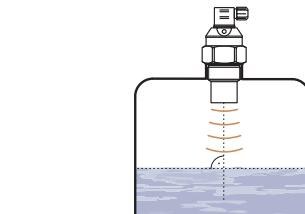

Fig. 1: Recommended installation in the tank
- Install the level meter in a **vertical position** into the upper lid of the tank (vessel) or reservoir using a lug, a fastening nut or a flange in such a way that the ULM axis is perpendicular to the level of the measured liquid (Fig. 1).